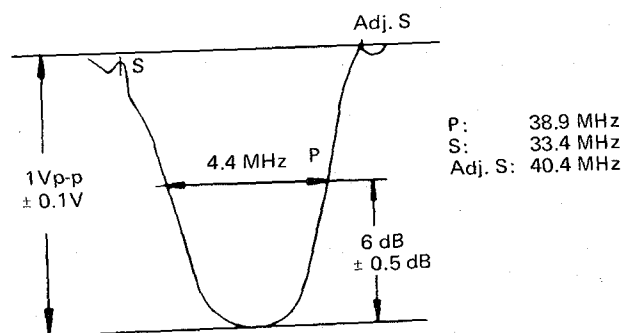

Figure 2
- 9) Adjust T101 on tuner side and T201 core as shown in Fig. 2.